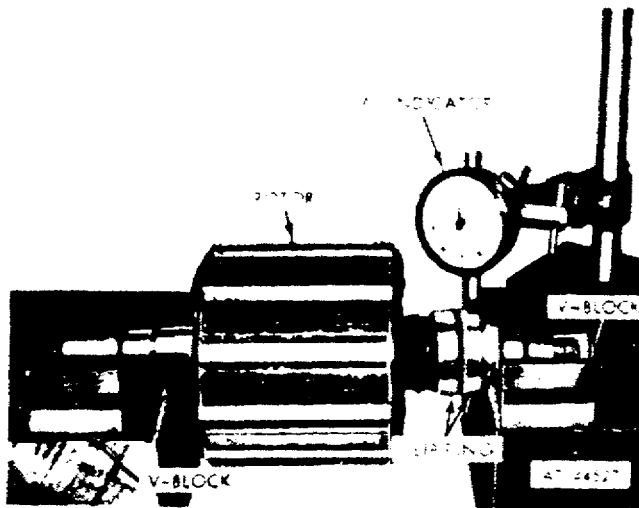

Figure 18. Testing sliprings for distortion.
(1) Inspect keys and key seats for damage.
(2) Inspect shaft for burred or stripped threads.
(3) Place rotor in V-blocks, and check each slipring with dial indicator (fig 18). Maximum allowable distortion is 0.001 inch.